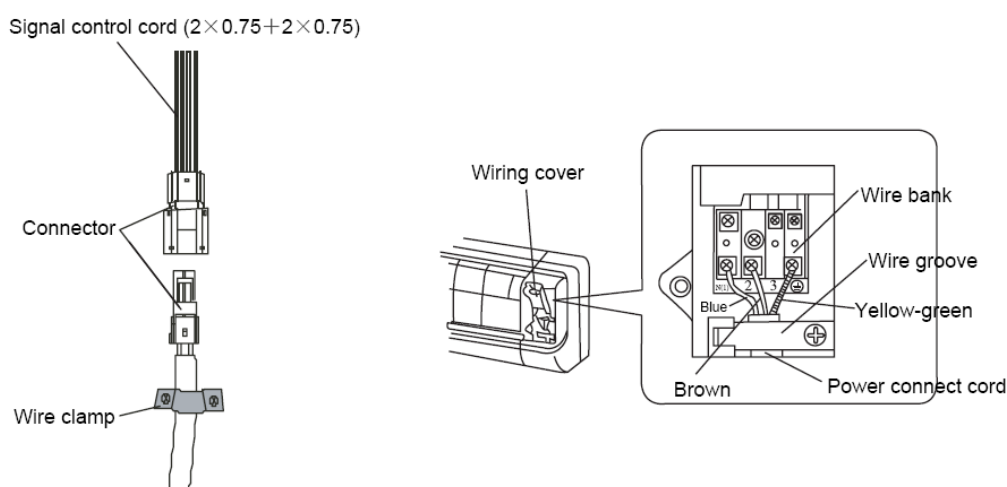

Fig.11-4
4. Connect the blue one among power connect cord onto terminal N(1) of terminal board, brown one onto terminal 2, and yellow-green one (i.e. earth wire) onto terminal \perp .
5. To heat pump unit, signal connect cord (2×0.75) should be connected with indoor unit by connector (as shown in fig.11-4), and tighten the signal control cord by wire clamp at button of case.